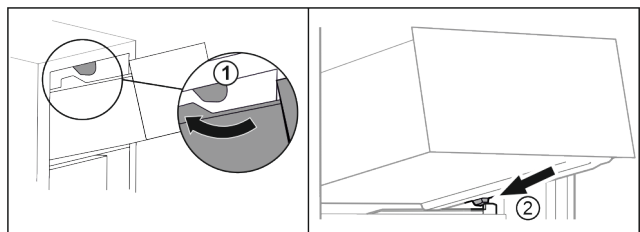

Fig. 90
- ▶ Guide drawer around the upper stoppers. Fig. 90 (1)
- ▶ Place drawer at an angle behind the lower stoppers onto moulded rib. Fig. 90 (2)